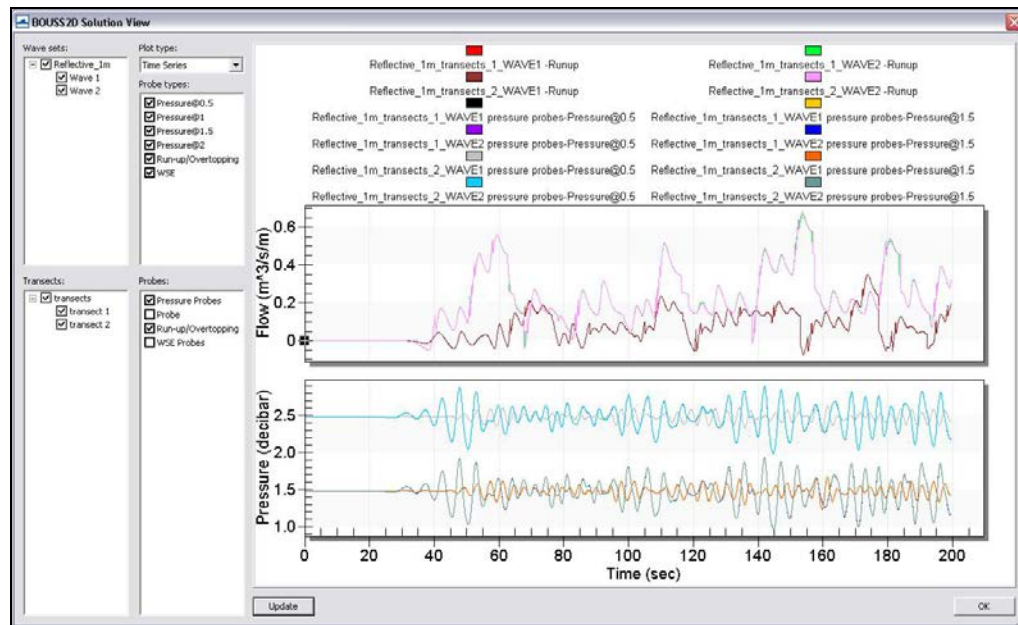

Figure 17 BOUSS2D Solution View – Time Series Plot
7. Figure 17 shows the Time Series plot in the BOUSS2D Solution View.